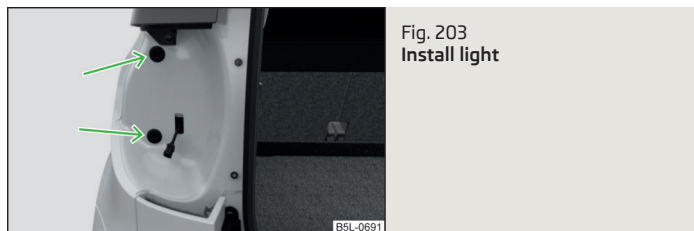

Fig. 203
- Insert the light into the mounts in the body » Fig. 203.